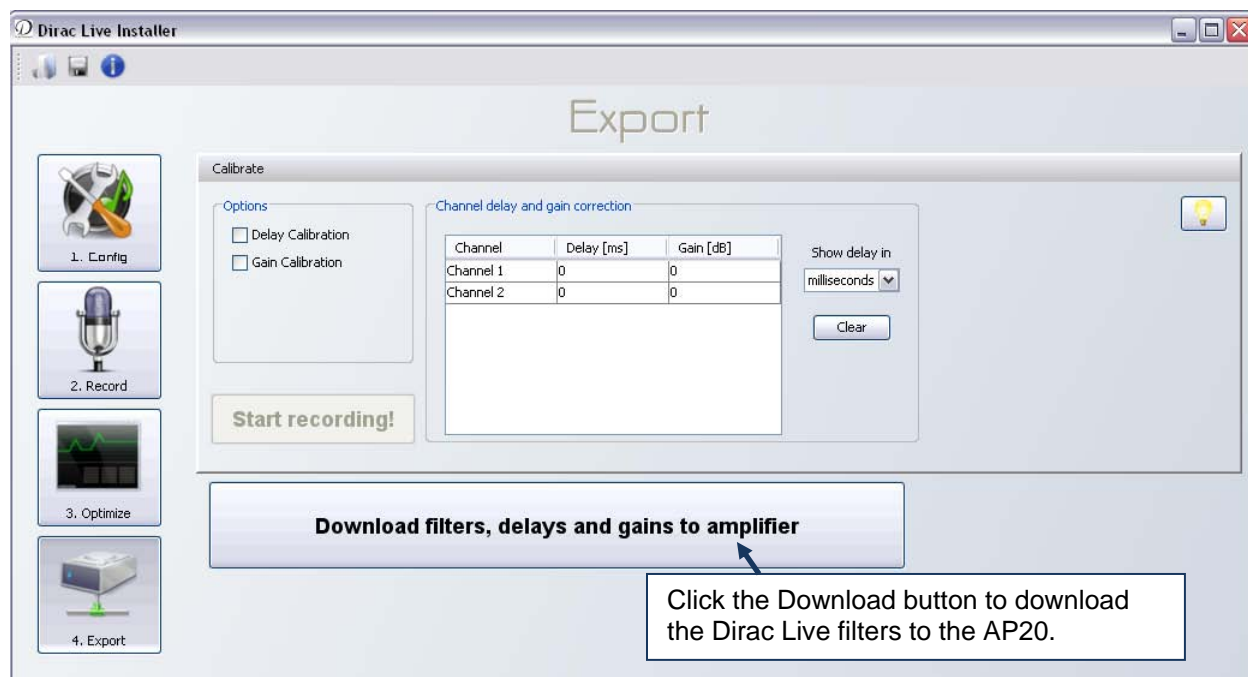

Figure 19. Export Screen
1. When satisfied with the Dirac Live® optimization, press the **Export** button. Then click **Download** to download filters, delays, and gains to the amplifier (the AP20). See Figure 19. A dialog box will appear in which you need to enter a file name for the set of configuration filters, then download it to the AP20.